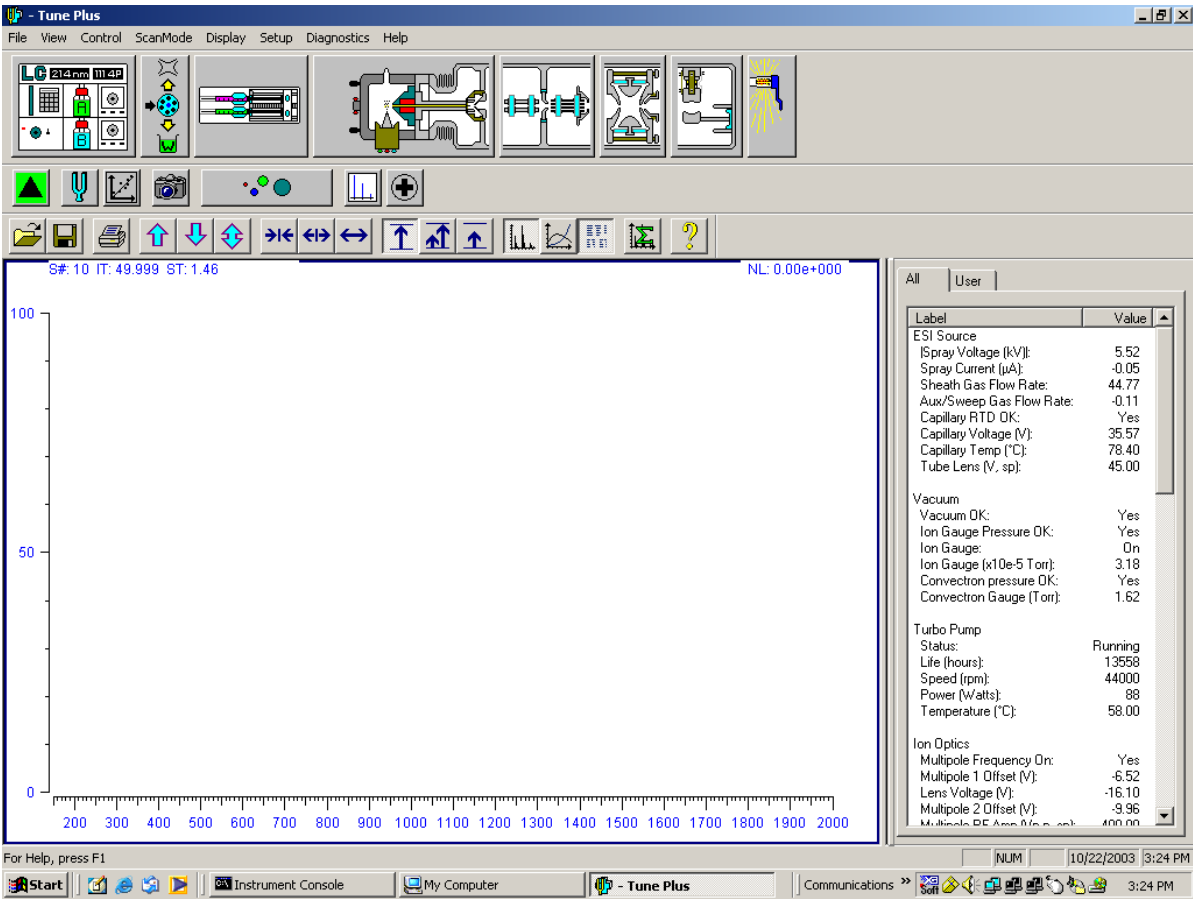

Figure 6-3. Status Panel Open in Tune Plus Window
4. In the Tune Plus window, click on the Status button to open the status panel. See Figure 6-3.